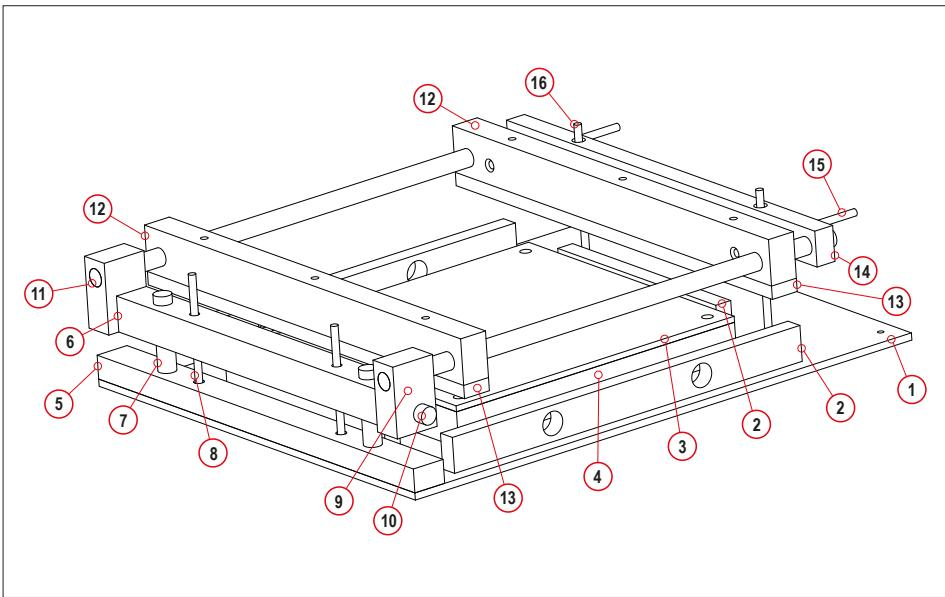

Figure 1. Isometric sketch of the stencil plate.
The individual parts of the stencil frame are best identified using the isometric rear-view representation (**Figure 1**). On the base plate (1) are fixed the four adjustable skirtings (2). In these you can see the drilled openings that are equipped with threads that match the micrometer heads or feed. Two of